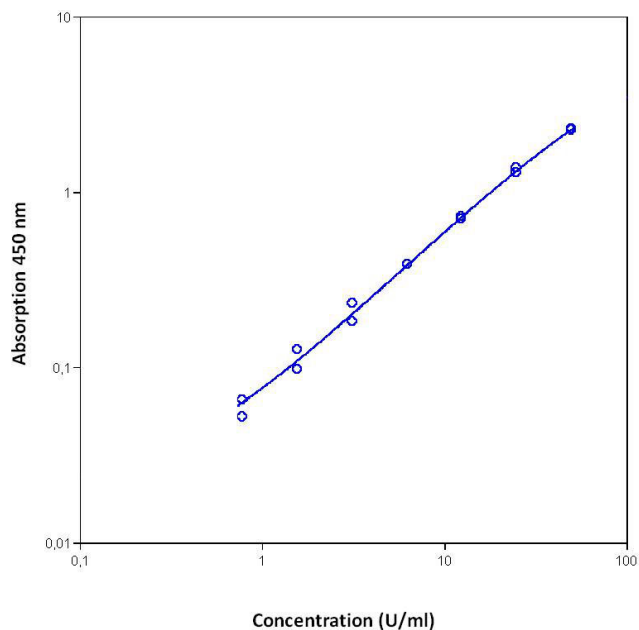

Fig. 8 Representative standard curve for human p53 ELISA. Human p53 was diluted in serial 2-fold steps in Sample Diluent.
- A representative standard curve is shown in Figure 8.